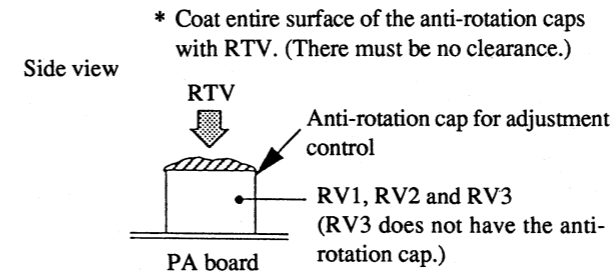

Figure 1
10. Turn off the main power to the projector. Coat entire surface of the anti-rotation caps on top of RV1, RV2 and RV3 with RTV. Then fix them. (See Figure 1.) (Coat the adjustment controls fully with RTV.)